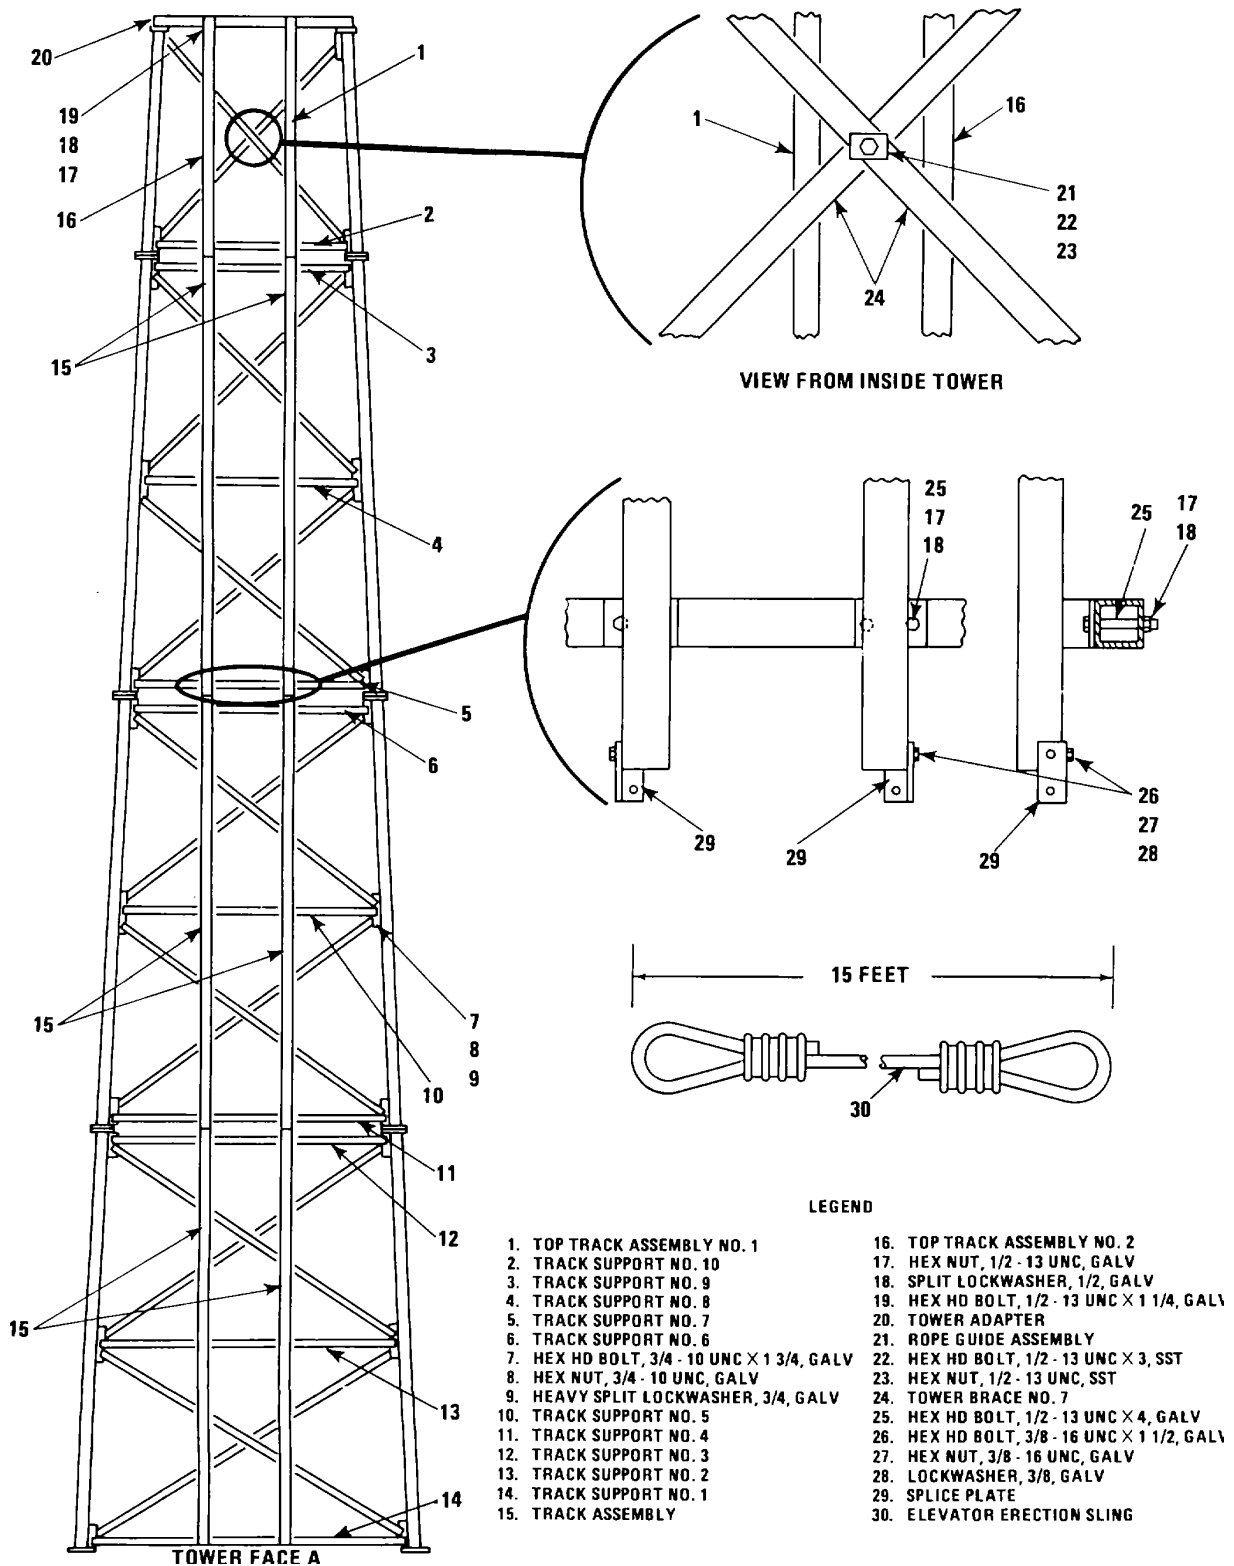

Figure 2-9. Elevator Track Attachment
If vertical elevator tracks are available when tower sections Nos. 1 through 4 are assembled and attached, install them next by following the procedure described below. If not, install the tower adapter next (paragraph 2-14). See paragraph 2-16c for instructions for attaching vertical elevator tracks after tower is erected. With the tower resting on support blocks, all tracks and track supports are to be attached to face A of the tower (the face that lies between legs B and C). Refer to figure 2-9.
- a. Attach track supports Nos. 1 (14), 2 (13), and 3 (12) to tower section No. 1. Secure to tower leg assemblies with six bolts (7), nuts (8), and lockwashers (9).
- b. As in step a, and with the same attaching hardware, attach track supports Nos. 4 (11), 5 (10), and 6 (6) to tower section No. 2; track supports Nos. 7 (5), 8 (4), and 9 (3) to tower section No. 3; and track support No. 10 (2) to tower section No. 4.
- c. Attach six track assemblies (15) to track supports of tower sections Nos. 1,2, and 3 (two for each tower section) and secure with 36 bolts (25), nuts (17), and lockwashers (18) as shown in the detail of figure 2-9.